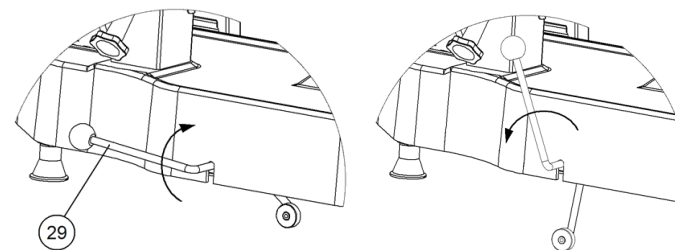

FIG 14. LIFTING HANDLE SLICER
Pull up the lifting handle (29) to incline the slicer (See Fig. 14). Clean all the parts under the machine with a damp cloth.